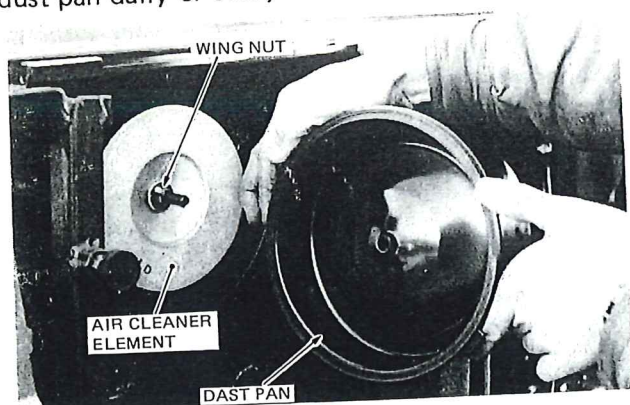

Figure 44 — Air Cleaner — Disassembled
Checking Dirt Level: Check the dirt level in the dust pan daily or every 10 hours (Figure 44).
1. Loosen the wing nut and remove dust pan, Figure 44.
2. Remove seal and dust cap from dust pan and clean dust pan, using a damp lint free cloth, Figure 44.